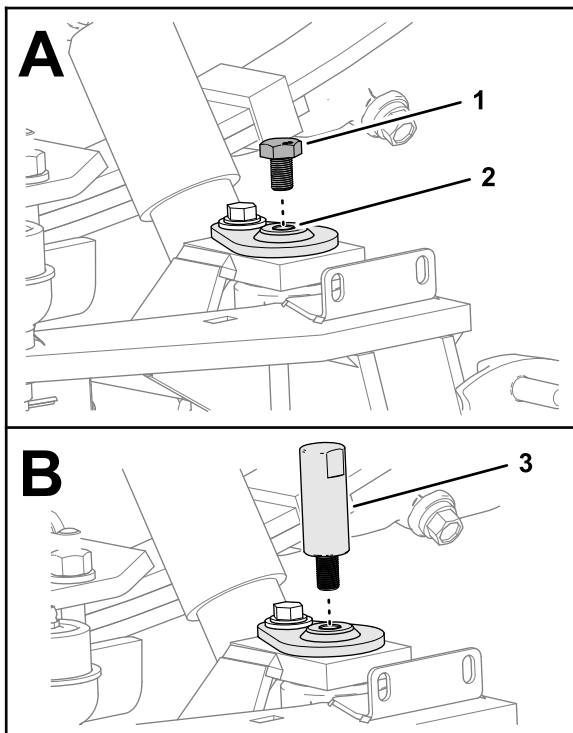

Figure 17
1. Remove the capscrew from the end of the kingpin (Figure 17).
2. Thread the alignment tool into the top of the king pin (Figure 17).